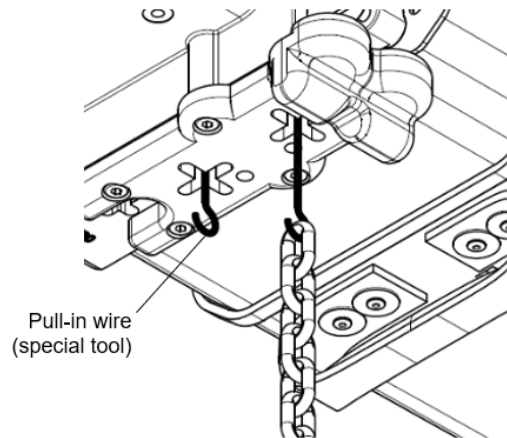

Figure 17. Inserting the pull-in wire
1. Insert the pull-in wire through the chain guide cross plate. The hook must point towards the end of the hoist as shown in Figure 17. Push the pull-in wire until the hook on the other side of the chain guide cross plate is visible.